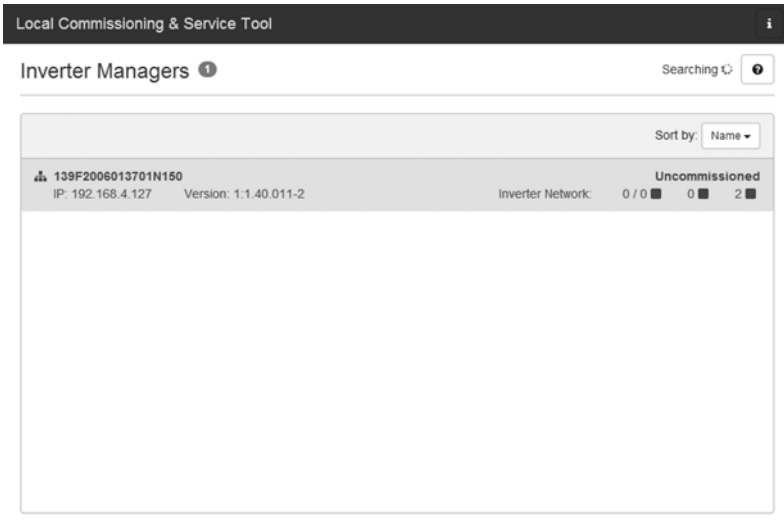

Figure 8: LCS-Tool - start screen
2. The screen now shows a list of all Inverter Managers (see figure 8). To start the assistant, click on the Inverter Manager to be configured. By clicking on the Inverter Manager, the inverters found by the Inverter Manager are displayed. Inverters that have not been commissioned (no grid code assigned) are presented with a blue square together with their software version.